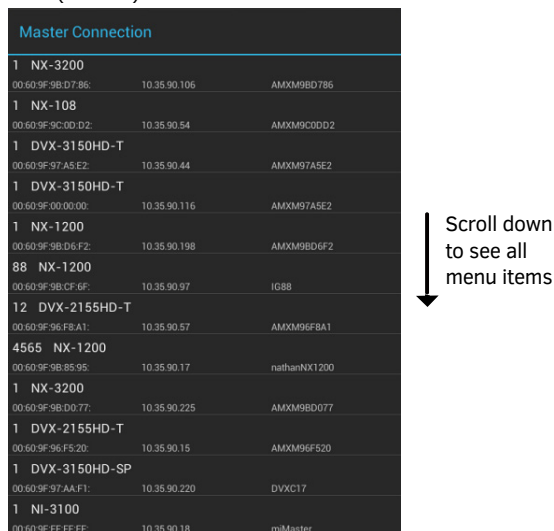

FIG. 64 Master Connection window
1. In the *NetLinx* page, press **Scan For Masters** to begin listening for NetLinx masters and open the *Master Connection* window (FIG. 64):